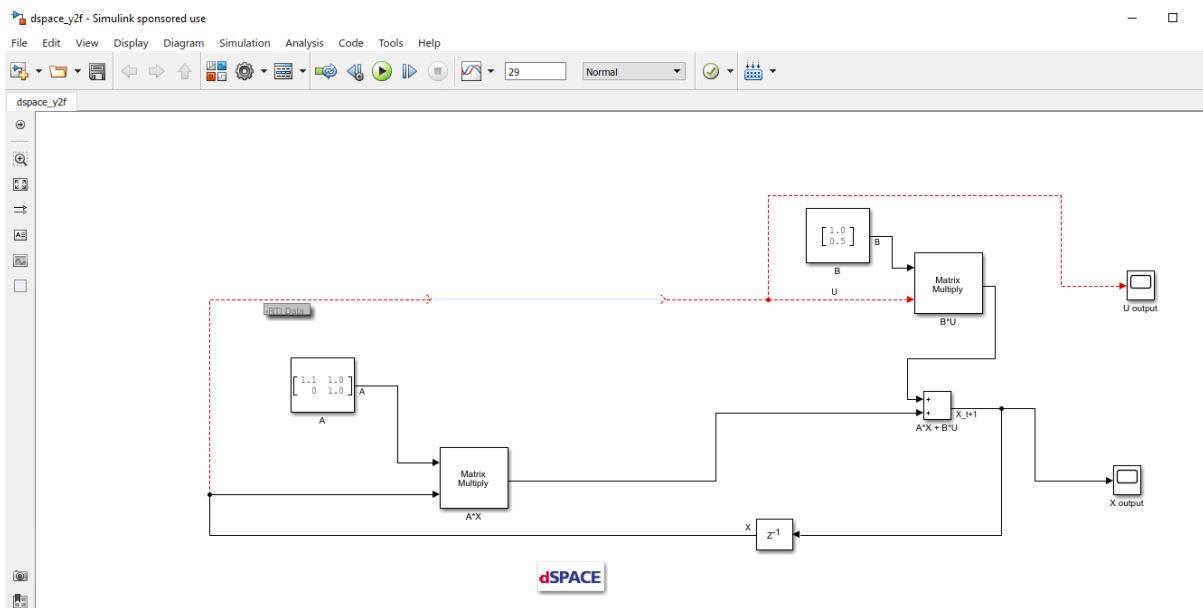

Figure 12.45: Populate the Simulink model.
3. (Figure 12.45) Populate the Simulink model with the system you want to control.